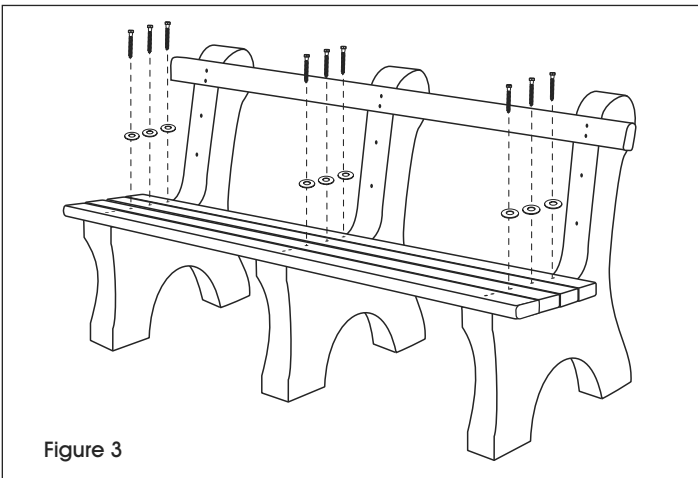

Figure 3
5. Align three single hole bench slats on the pre-drilled holes of the bench base seat. Loosely attach the single hole bench slats with the 3 1/2" lag screws and washers using the power drill and 7/16" socket bit (will tighten later in step 7). (See Figure 3)